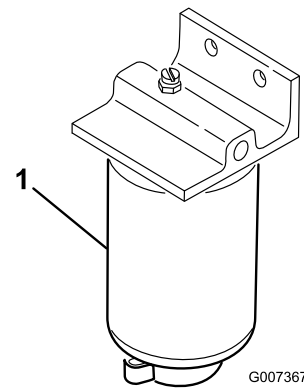

Figure 54
1. Place a clean container under the fuel filter (Figure 54).